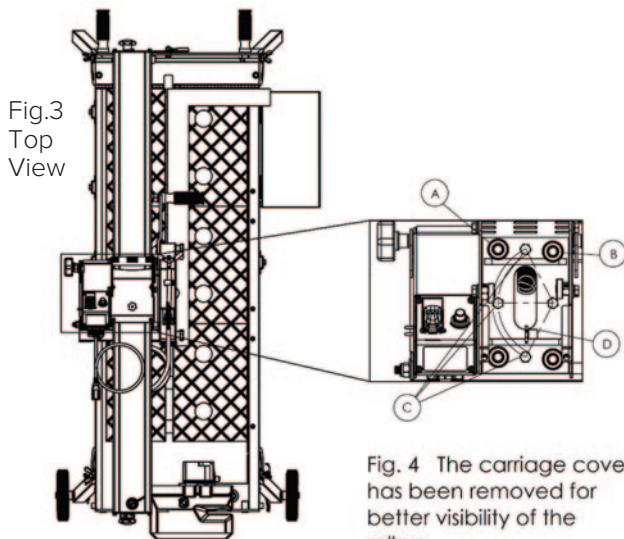

Fig. 4 The carriage cover has been removed for better visibility of the rollers
2. If the blade is constantly shifting left, using Fig. 4 as reference, the cutting head must be rotated counterclockwise (left).
3. If the blade is constantly shifting right, using Fig. 4 as reference, the cutting head must be rotated clockwise (right). Note: The cutting head should glide effortlessly across the bridge. Should the head be too tight or too loose, adjust the rollers on the left (A) using a size 17 wrench to rotate it. Rollers on the right (B) are fixed so they cannot be adjusted.